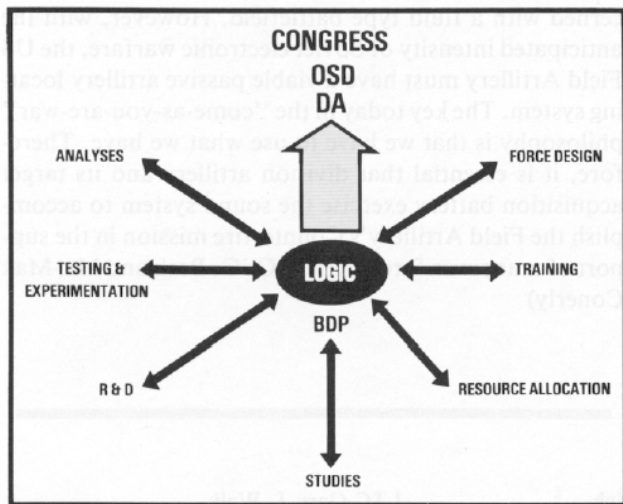

Figure 1. Battlefield Development Plan logic.
In late 1978, TRADOC published the *Battlefield Development Plan* (BDP) which provided the logic to tie the analyses, studies, research and development, resource allocation, organizations, and force designs into coherent force structure alternatives for TRADOC's presentation to the Department of the Army (DA), Office of the Secretary of Defense (OSD), and finally, the Congress (figure 1).